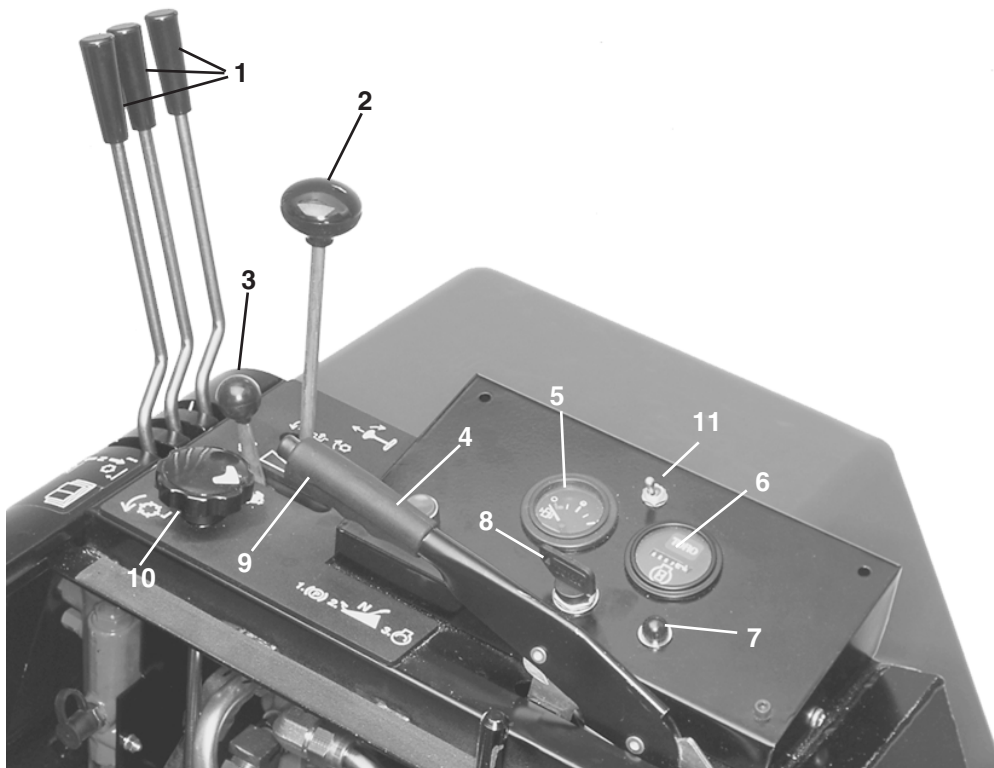

Figure 12
Cutting Unit Lift Controls (Fig. 12)—The two outside levers raise and lower the two outside cutting units. The center lever raises and lowers the two front and the center cutting units. The engine must be running to lower the cutting units. When the cutting units are lifted, the reels automatically stop. Do not allow the levers to snap-back to neutral, or the cutting units may not float freely.
Engine Override Button (Fig. 12)—When the button is depressed, the engine can be operated after it has overheated and automatically been stopped by the electrical safety system. Use only for short intervals.
Fuel Level Gauge (Fig. 12)—Indicates the amount of fuel in the tank.
Hour Meter (Fig. 12)—Indicates total hours that the machine has been operated. **Note:** Lines circling in the small window at the left side of gauge indicate that the hour meter is operating.
Engine Preheat Indicator Light (Fig. 12)—Light turns on when the key is turned to the ON position. Glow plugs engage for 10 seconds, then the light goes off and the engine is ready to start..
Key Switch (Fig. 12)—This switch has three positions: OFF, ON and START. Turn the key to START and release it when the engine begins running. To stop the engine, turn the key to OFF.
Parking Brake Lever (Fig. 12)—Pull the lever up to lock the brake. To release the brake, pull up on the lever, press the button and lower lever. The brake must be engaged to start the engine. Always engage the parking brake before getting off the seat.
Mow-Backlap Lever (Fig. 12)—Move the lever forward to engage the cutting units. Move the lever to the center to stop the cutting units. To backlap the cutting units, lift the lever over stop and hold in the rear position.
Reel Speed Control (Fig. 12)—Turn the knob clockwise to increase the reel speed, counter-clockwise to decrease reel speed. Use with the ground speed limiter to get an appropriate rate of grass clip.
Throttle Control (Fig. 12)—Move the control forward to increase the engine speed, backward to decrease speed.
4-Wheel Drive Switch (Fig. 12)—(4-wheel drive model only) Move the switch forward to engage 4-wheel drive. Move the switch to the rear position to disengage 4-wheel drive.
2. Sit on the seat and engage the parking brake (Fig. 12). Turn the key and try to start the engine with the Mow/Backlap lever (Fig. 12) in both the MOW and BACKLAP positions. If the engine cranks, there is a malfunction that must be repaired immediately. If the engine does not crank, the cutter drive switch is operating correctly.